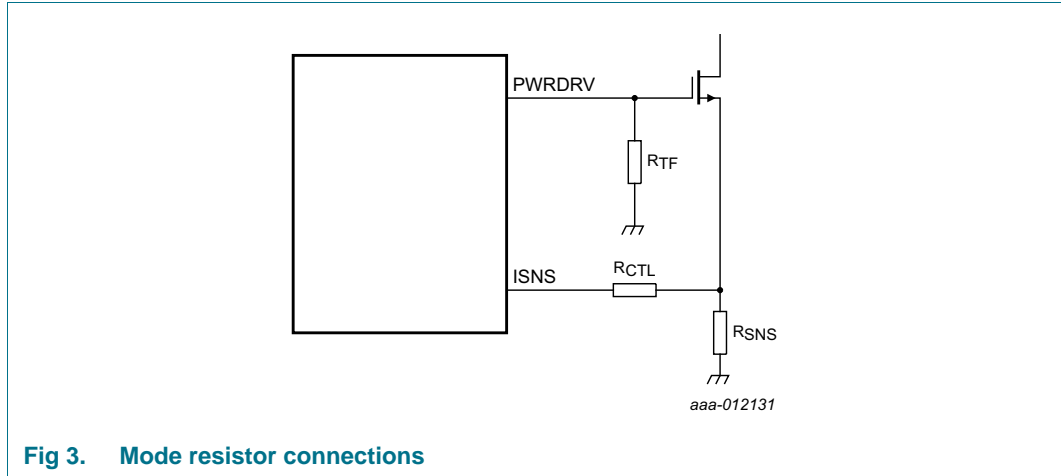

Fig 3. Mode resistor connections
The ISNS pin senses the voltage across the sense resistor, R_{SNS} , generated by the inductor current flowing through the external MOSFET and this resistor (see Figure 3).
The mode resistor at the PWRDRV (R_{TF}) is connected to ground. The mode resistor at the ISNS pin (R_{CTL}) is connected between the pin and the external MOSFET source (see Figure 3).
- R_{SNS} is the sense resistor on pin ISNS (see Figure 3)